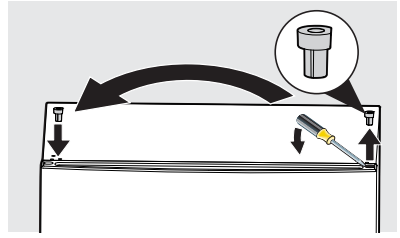

Figure 2
2. Gently pry the hinge bearing out from the door with a flat head screwdriver. Install the hinge bearing on the opposite side of the door. Remove the door from the unit by lifting it up (see Figure 2).